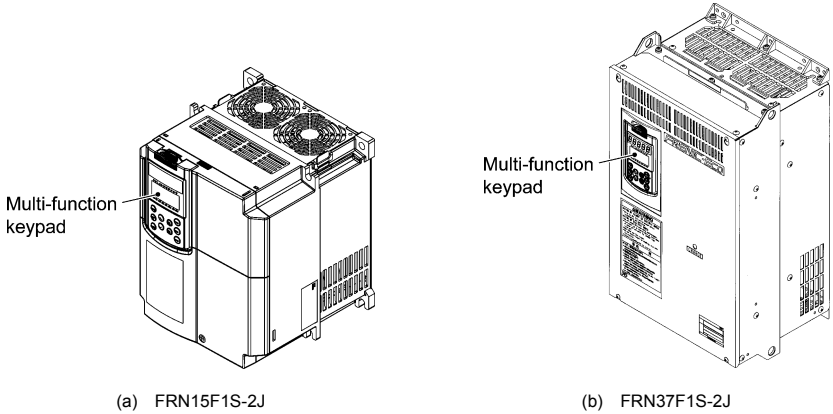

Figure 2.1 Mounting the Multi-function Keypad Directly on the Inverter
- Mounting it directly on the inverter (see Figure 2.1). (For FRENIC-Eco/MEGA only.)